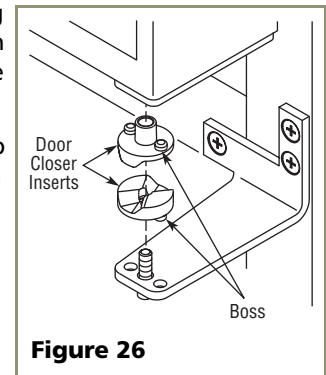

Figure 26
- Install door closer. See **Figure 26** on **Page 12**. Be sure that bosses on closers align with holes in hinge.
7. Reinstall the closers, lining up the bosses with holes in hinge and hinge plate (see **Figure 26**).